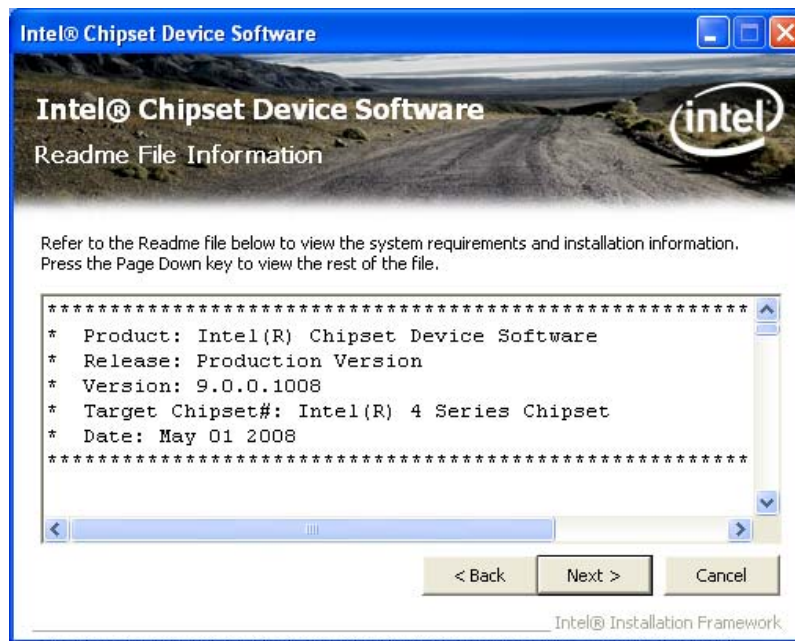

Figure 7-7: Chipset Driver Read Me File
Step 9: The Read Me file in **Figure 7-7** appears.